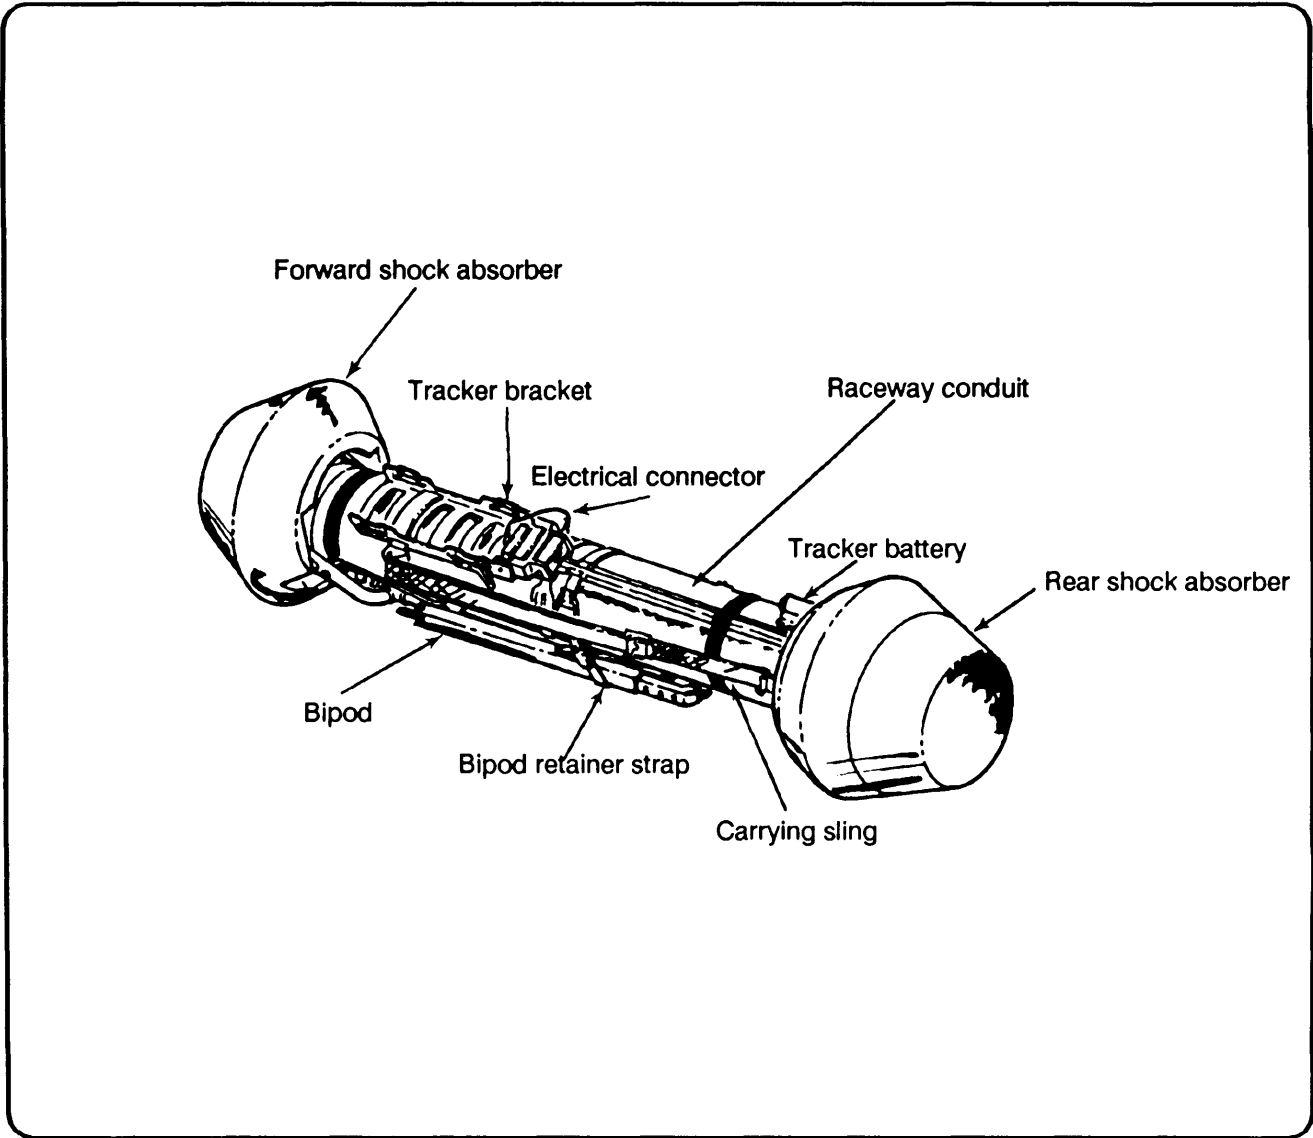

Figure 1-9. M222/MK1, MOD 0, tactical round external components.
c. Ammunition. The Dragon ammunition is an expendable component (Figure 1-9), consisting of the missile and launcher. The missile is installed in the launcher at the factory and shipped in a ready-to-fire configuration. The launcher serves as a storage and carrying case for the missile before launch.
(1) The launcher consists of a smoothbore, fiberglass tube, breech/gas pressure generator